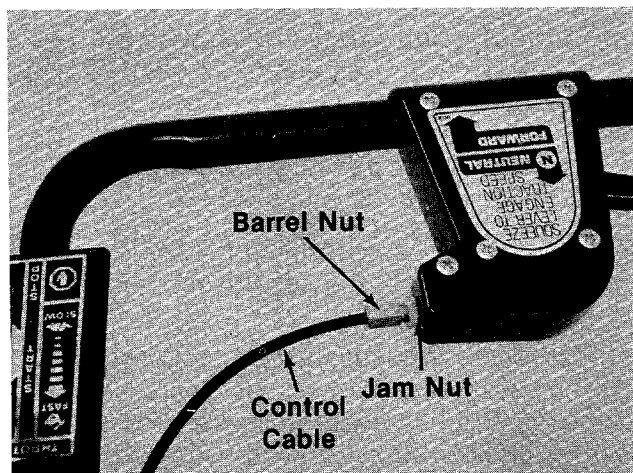

FIGURE 13.
1. To increase belt tension, loosen jam nut and back off two or three threads. Thread the barrel nut on end of control cable outward two or three threads. Retighten jam nut. See figure 13.
2. To decrease belt tension, loosen jam nut and back off two or three threads. Thread the barrel nut on end of control cable inward two or three threads. Retighten jam nut. See figure 13.